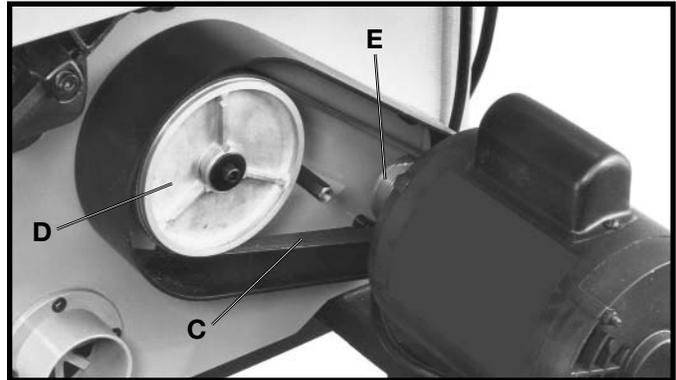

Fig. 30
2. A poly V-belt (C) Fig. 30, drives the saw pulley (D) from the motor pulley (E). Correct tension of the belt (C) is when there is approximately 1/4" deflection in the center span of the belt (C) using light finger pressure. If belt tension needs to be adjusted, loosen motor mounting hardware and slide motor forward or backward until correct tension is obtained. Then tighten motor mounting hardware.